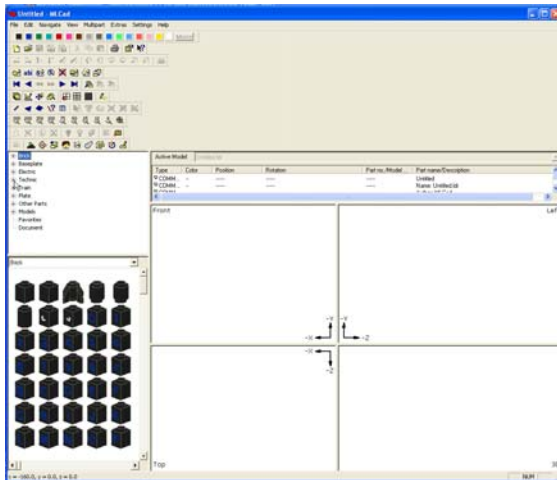

Figure 2A: As described in Step 1, click on the “+” sign alongside the Technic heading
Step 1: Click File – New. Click on the “+” sign next to the Technic heading. This will open up the list of available Technic parts (see **Figure 2A**).